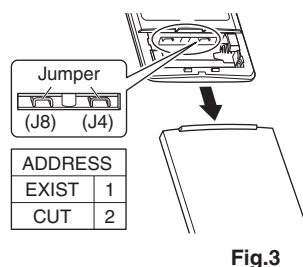

Fig.3
- 4) Cut the address jumper (J4) in the remote controller. (See Fig.3)